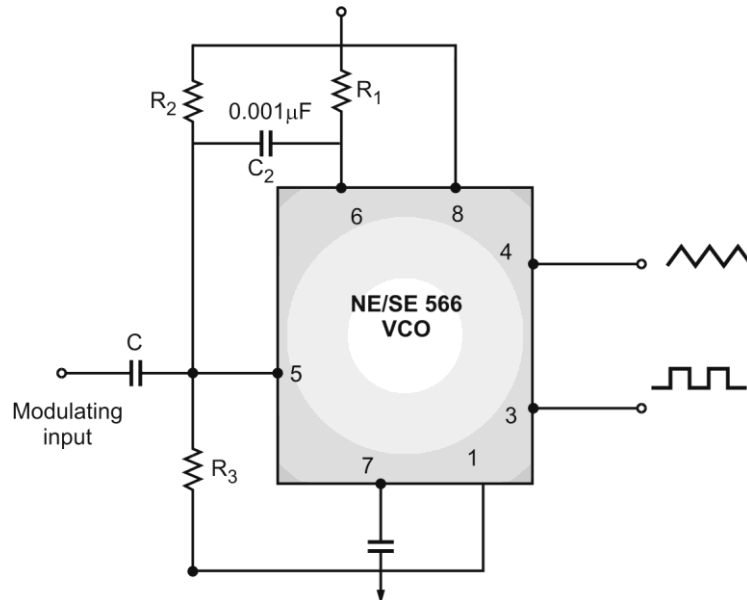

Fig. 5.4.3 : Typical connection diagram
- Fig. 5.4.3 is typical connection diagram of NE/SE 566 VCO.